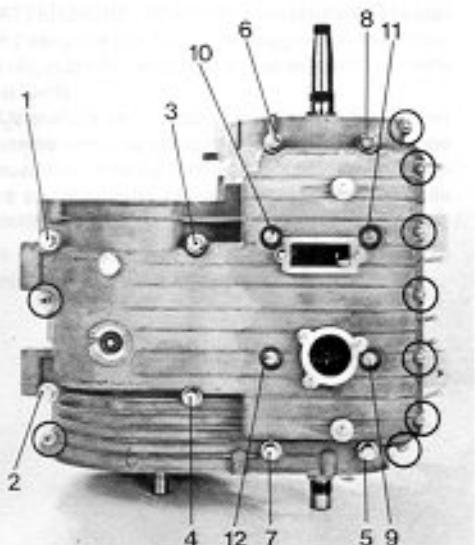

Fig. 151
- Gradually undo (1/4 turn at a time) the nuts which secure the cases, following the sequence shown in the figure 151 (13 mm spanner).